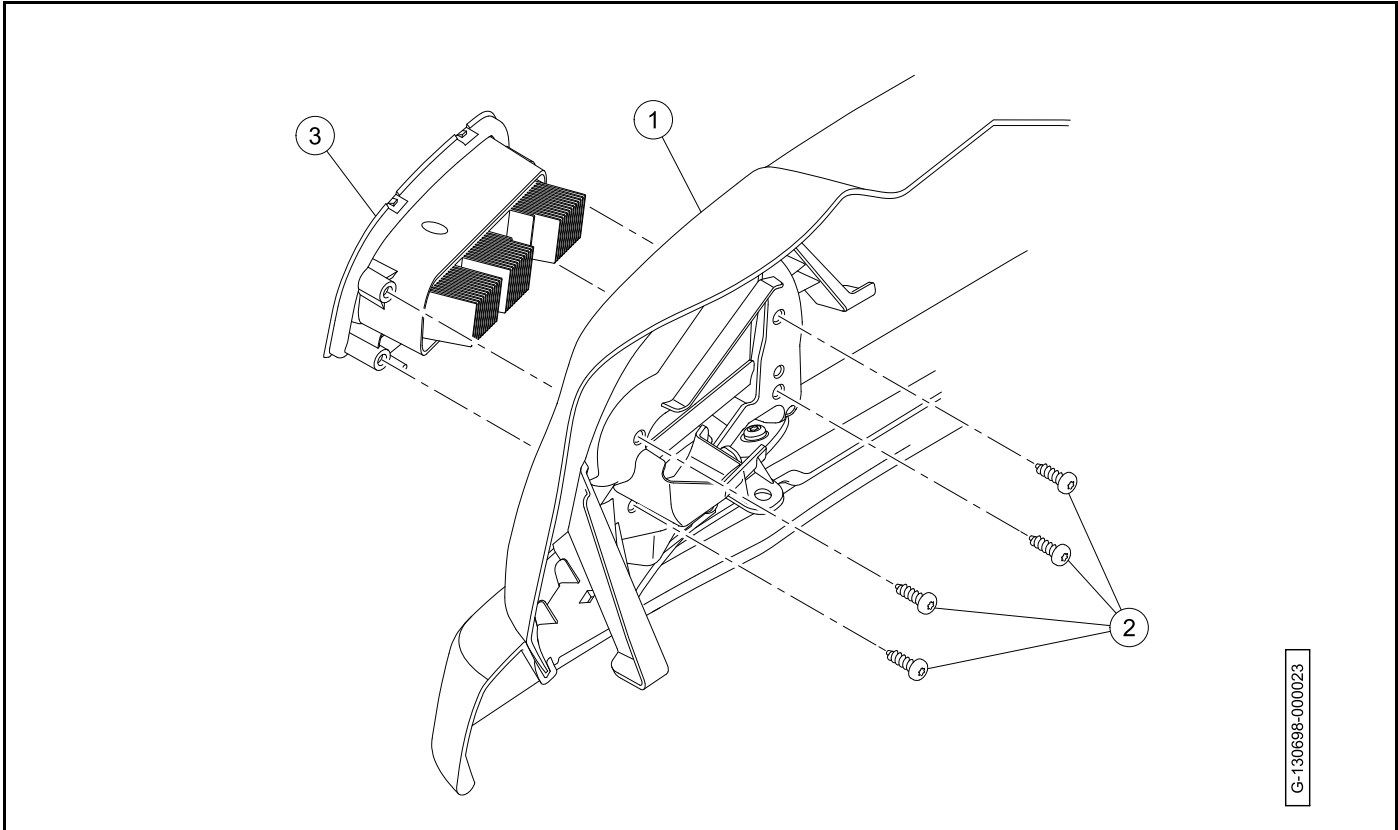

Figure 4-6 Headlights
2. Remove the front beauty panel (1) (**Figure 4-6**).
3. Remove the screws (2).
4. Remove the headlight (3).
1. Install the headlight (3) (**Figure 4-6**).
2. Install the screws (2).
4. Install the front beauty panel (1).